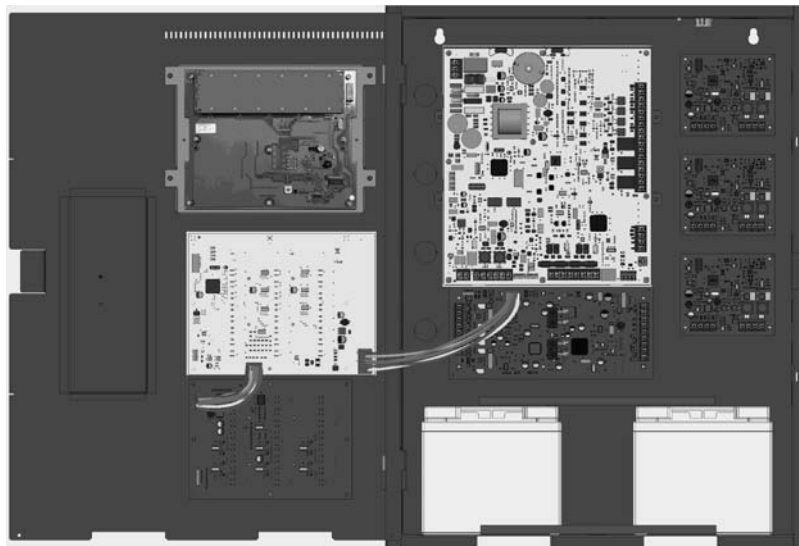
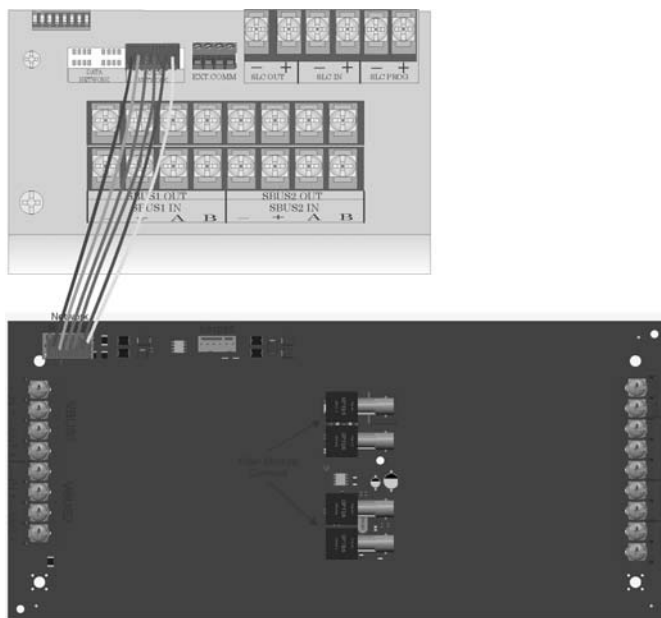
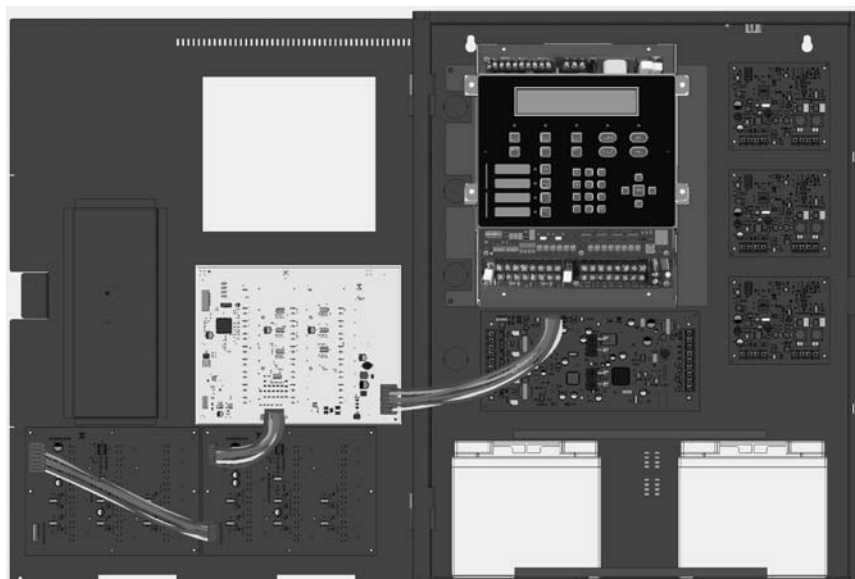

Figure 4-15 Connection between ECS-EMG and One ECS-SW24
Figure 4-16 Wiring Harness Connection for NVCM to IFP-2100ECS
Figure 4-17 Connection between ECS-EMG and Two ECS-SW24s
4. Install the ECS-SW24 on the six mounting studs located on the inside of the dead front panel. See Figure 4-15 for IFP-300ECS or Figure 4-17 for IFP-2100ECS.
5. For the IFP-300ECS, connect one end of the wiring harness (P/N 130398 supplied) to the ECS-EMG and the other end to the ECS-SW24 as shown in Figure 4-15.
6. For IFP-2100ECS connect one end of the wiring harness (PN 130398 supplied) to the ECS-EMG and the other end to the P4 connector on the NVCM as shown in Figure 4-16. If two ECS-SW24's are used, connect one ECS-SW24 to the other ECS-SW24 as shown in Figure 4-17.